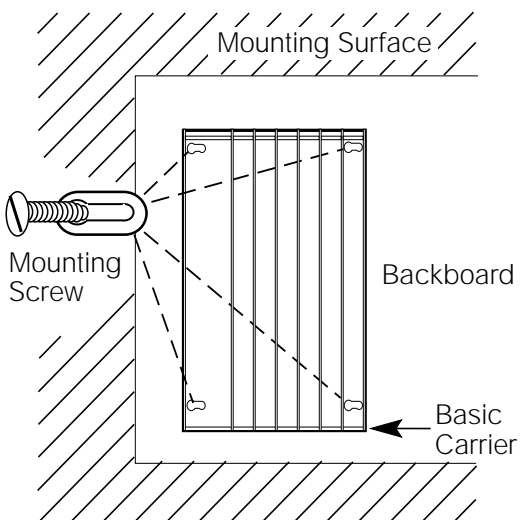
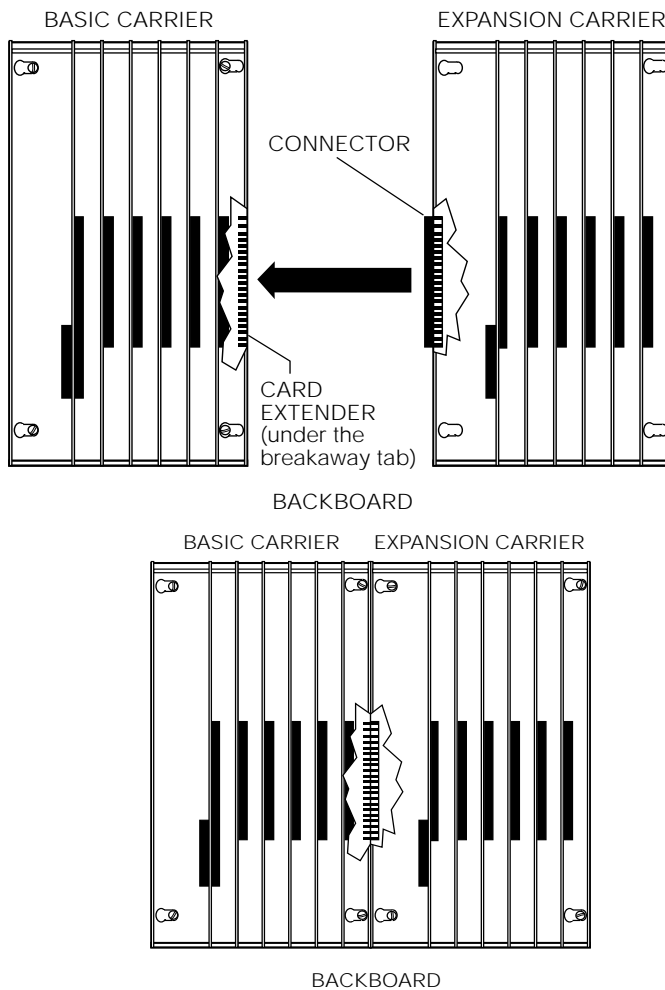

Figure 2-5. Marking the Basic Carrier Screw Holes
Figure 2-9. Connecting the Carriers
- ▶ **1. Mark the screw-hole locations on the backboard, using the basic carrier or the template supplied with the plastic preassembled backboard as a guide. See Figure 2-5.**
If you are to install one or more expansion carriers, follow the steps below to mount each one. Refer to Figure 2-9 and Figure 2-5 throughout the procedure.